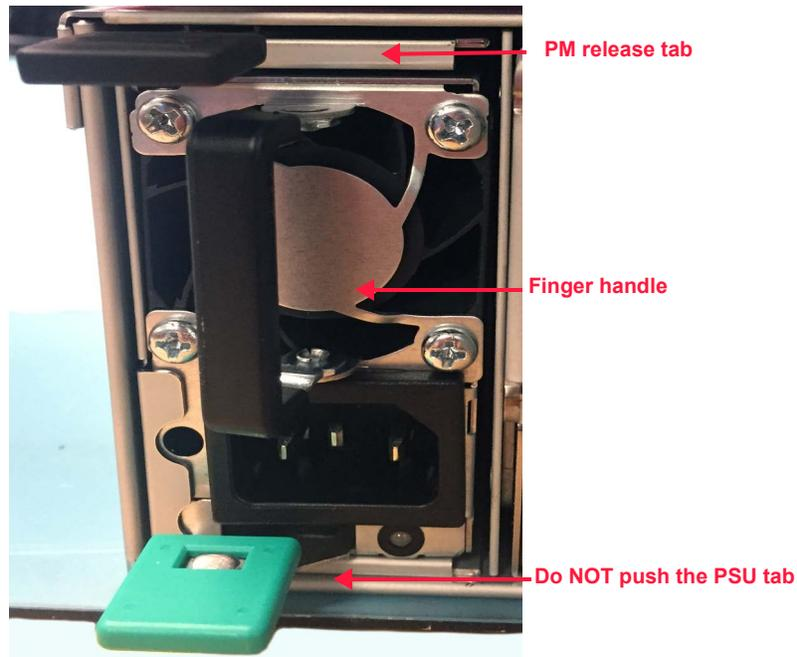

Figure 8.20 PSU removal
4. Press the PM release tab toward the finger handle while simultaneously pulling the finger handle outward to disengage the PM cam. Figure 8.20 on page 109 identifies the release tab and finger handle. Do NOT push the PSU tab.